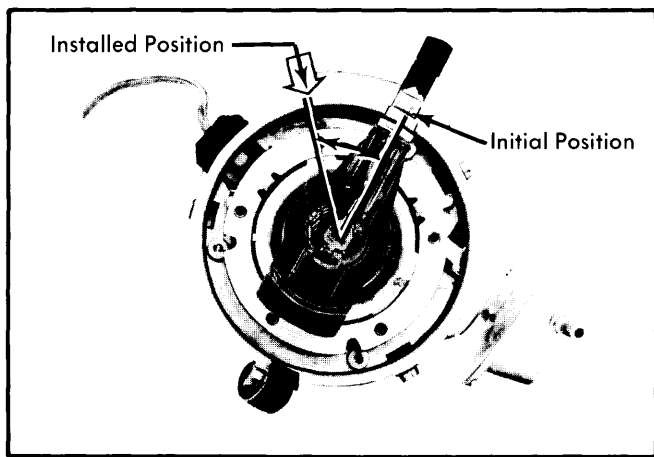

Fig. 4 Distributor Rotor Position Prior to Final Positioning
2. When installing distributor, rotor should initially point to clamp clockwise from mark on distributor housing. Crankshaft should still be in position for firing No. 1 cylinder following valve adjustment. When distributor is pushed into place, rotor will point to mark on housing. *Fig. 4 and 5.*